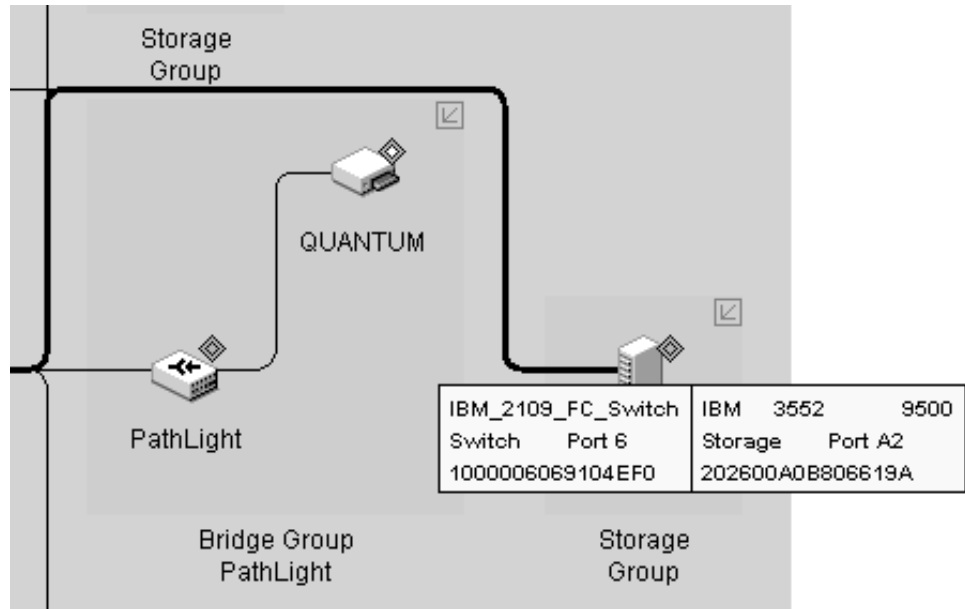

Figure 110. Device tip
- Determine the source and destination of a connection through the Device Tip. The Device Tip, shown in Figure 110 on page 277, pops up when you place the cursor over the selected connection.